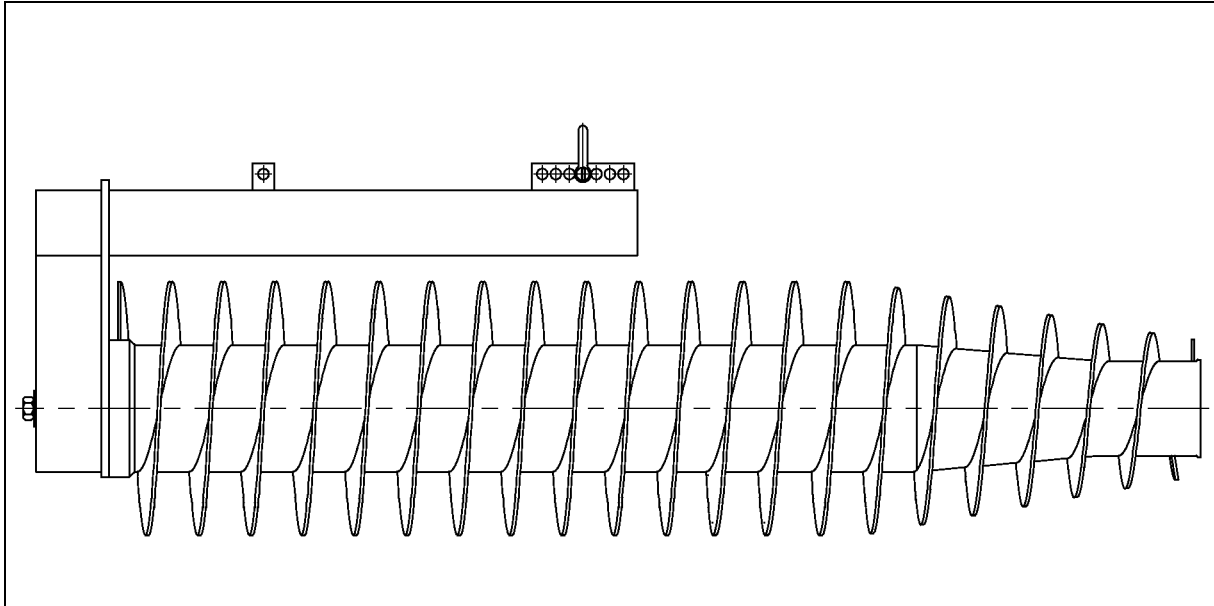

Figure 4.4.1
4.4.1 Remove Conveyor from Bowl (Fig. 4.4.1)
Place the bowl (without large end hub) horizontally on two wooden trestles or the like: Attach the lifting tool* to the large end of the conveyor as shown in Figure 4.4.1.
4.4.2 Insert Conveyor into Bowl (Fig. 4.4.1)
Place the bowl horizontally on two wooden trestles or the like: Attach the lifting tool* to the large end of the conveyor as shown in Figure 4.4.1.